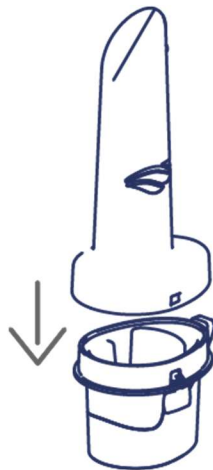

Figure 10 – Mist Stack to Mist Cup Assembly
4. Carefully snap the Mist Stack onto the Mist Cup (Figure 10).